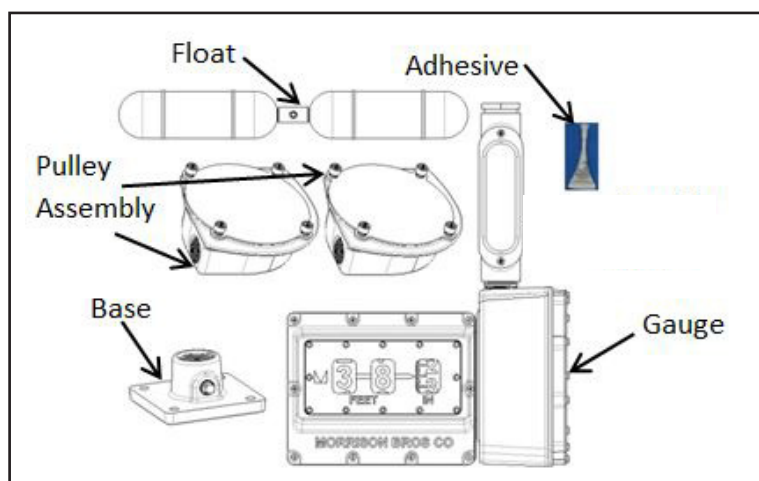

Figure 1
1. Verify contents of box. You should have received the gauge, float, pulley assemblies (2), one base and a small tube of adhesive (See Figure 1). Inspect the items for shipping damage. **DO NOT** use if damage is found. See page 13 for a list of items not supplied.